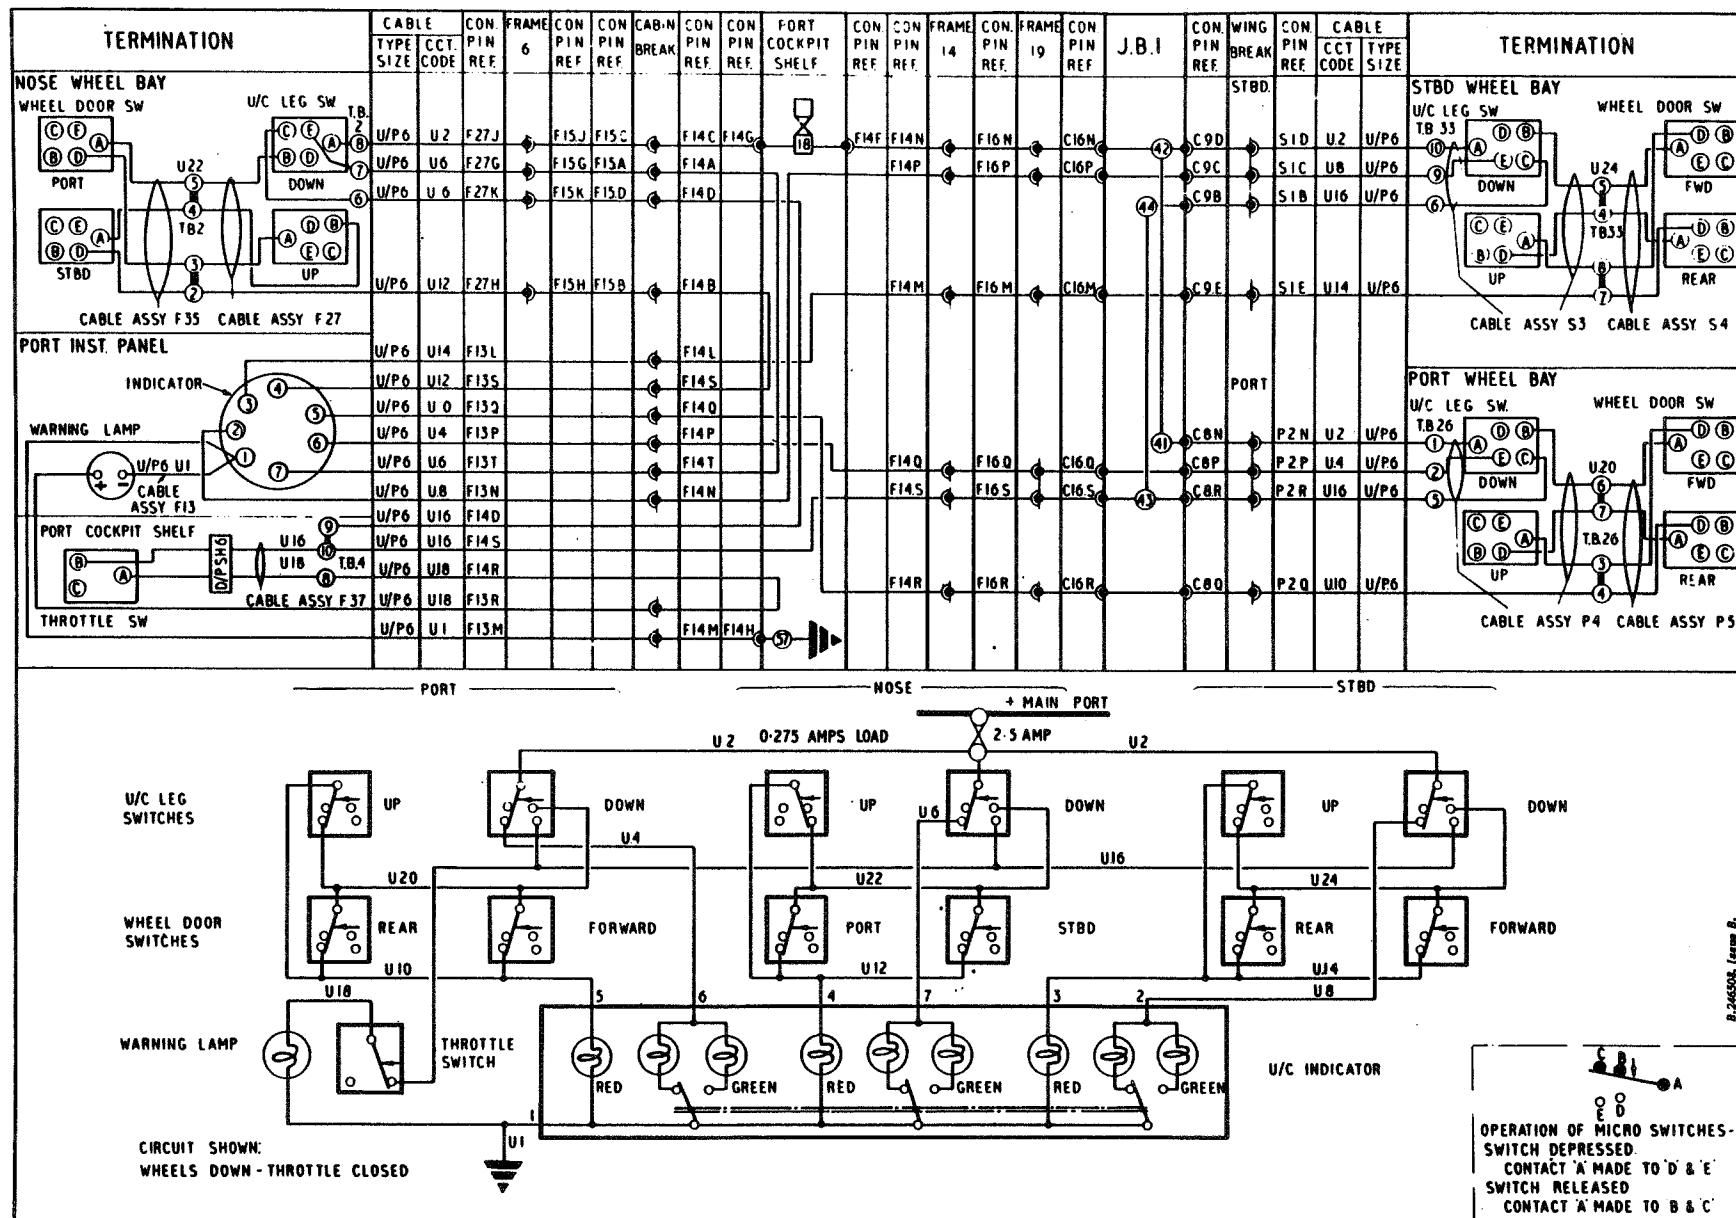

Fig.1 Alighting gear indicator and warning lamp (routeing and theoretical)
11. The circuit diagram (fig.1), shows the indicator circuit condition when the aircraft is standing on its alighting gear with the throttle closed. In this condition, all the